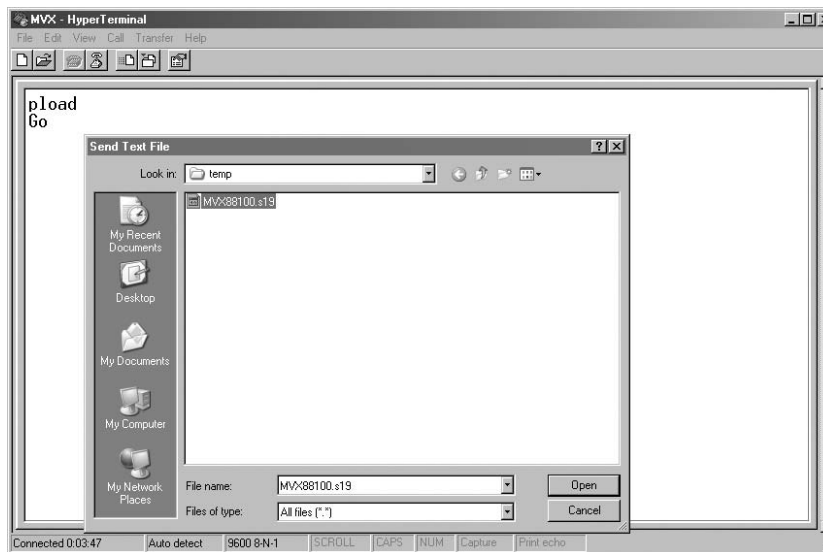

Figure 4-4— Select the firmware upgrade file
6. Navigate to the folder where you saved the firmware upgrade file. Select the file (figure 4-4).